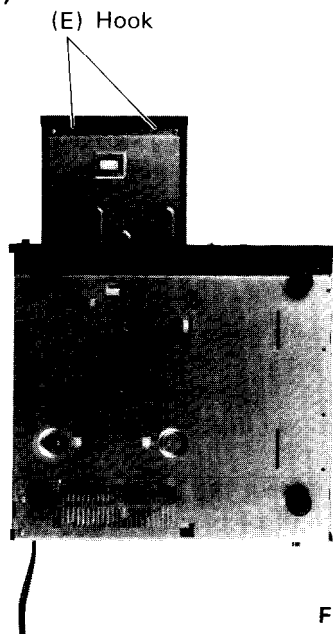

Figure 11
3. Remove tray panel by pushing hook (E) or Tray mold securing tray panel. (See Figure 11)